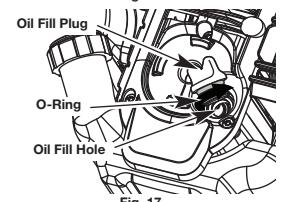

Fig. 17
- Remove the oil fill plug from the crankcase (Fig. 17).